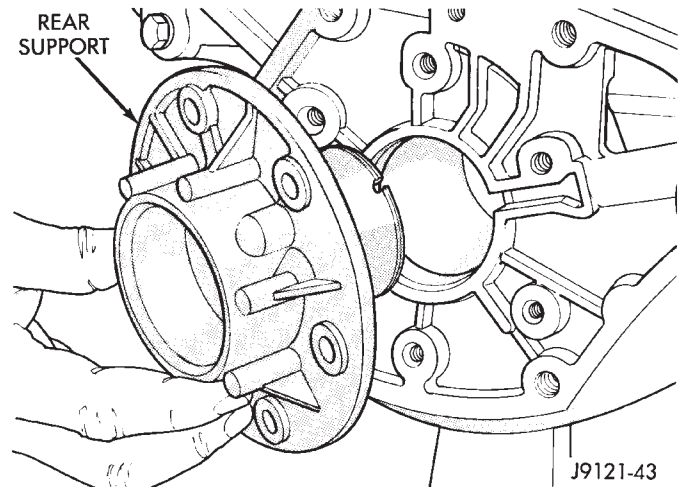

Fig. 132 Rear Support Installation
(3) Hold low-reverse drum in position and install rear support (Fig. 132)
(4) Align support with punch marks made during disassembly.
(5) Install and tighten rear support bolts to 17 N·m (150 in. lbs.) torque.